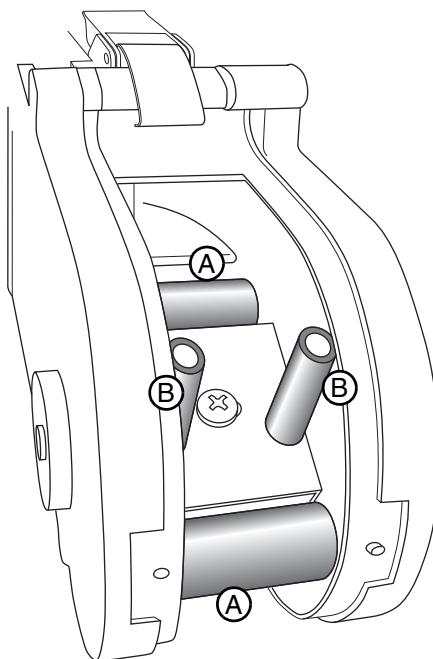

Figure 5-2 Rollers (A) and guides (B) on the pump rotor
- b. **Pump Rotor** – Look for debris build-up on the pump roller or guide surfaces (Figure 5-2). Clean when needed (Section 5.1.3).